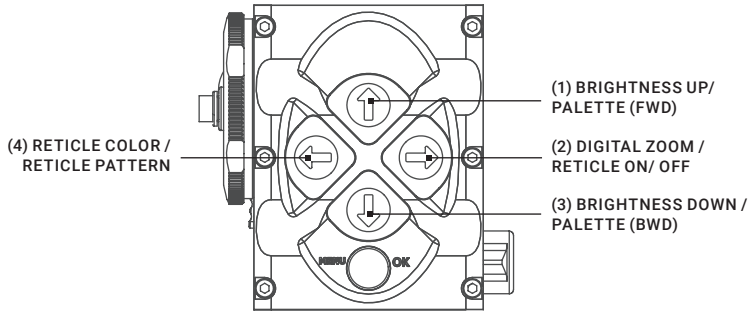

FIGURE 2-16. SETTING BUTTONS
8. Using the buttons on the control panel (Figure 2-16), configure the Cobra to adapt it to your situation.